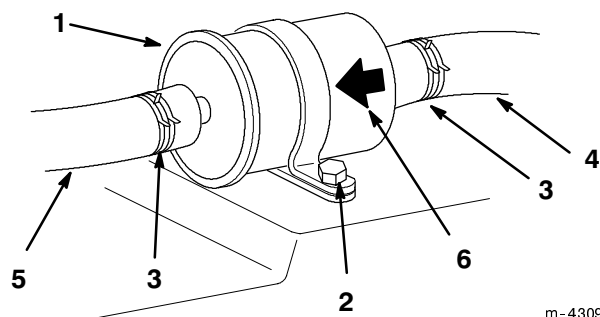

Figure 42
3. Remove the filter mounting bolt and remove the filter (Fig. 42).
4. Squeeze the ends of the hose clamps together and slide away from the filter (Fig. 42). Remove the fuel lines from the filter.
5. Push fuel lines onto the new filter, and slide hose clamps close to the filter (Fig. 42). Make sure the flow direction arrow points toward the engine/fuel pump. Secure filter to chassis with previously removed mounting bolt (Fig. 42).